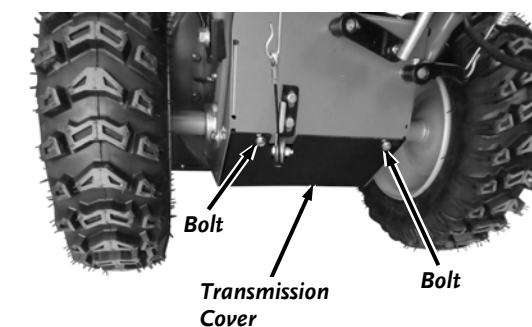

Figure 44
3. Remove the two Bolts that secure the Transmission Cover using a 10mm Wrench and Remove the Transmission Cover (**Figure 44**). This will allow you to guide the Belt off the Auger Pulley from underneath.